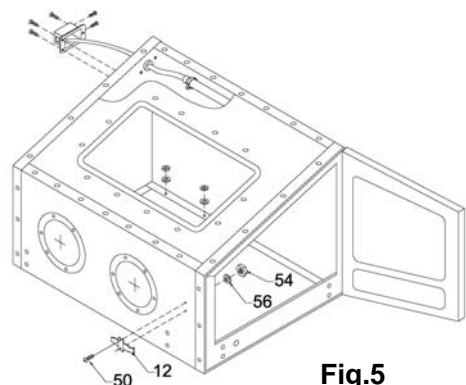

Fig.5
Step 5 -- Light Assembly see Figure 5
Put the Light Lamp (#39) into the Light Clamps (#37) and tighten the Light Clamps (#37) by Nylon Threads (#38),make the light clamp (#39) stable. Guide the wire of the Light Lamp (#39) out through the hole of Cabinet Left Plate (#18), and tighten the plastic nuts with the left plate (#18) so that to protect the wire. Insert the joint end of the wire into the switch (#21). See Figure 5.